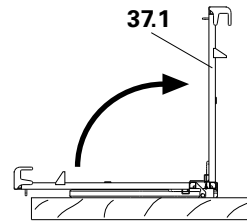

Fig. B2.18
1. Fold out handrail (37.1) and swivel both end handrails inwardly by 45°. They lock into place on the platform decking. (Fig. B2.18)